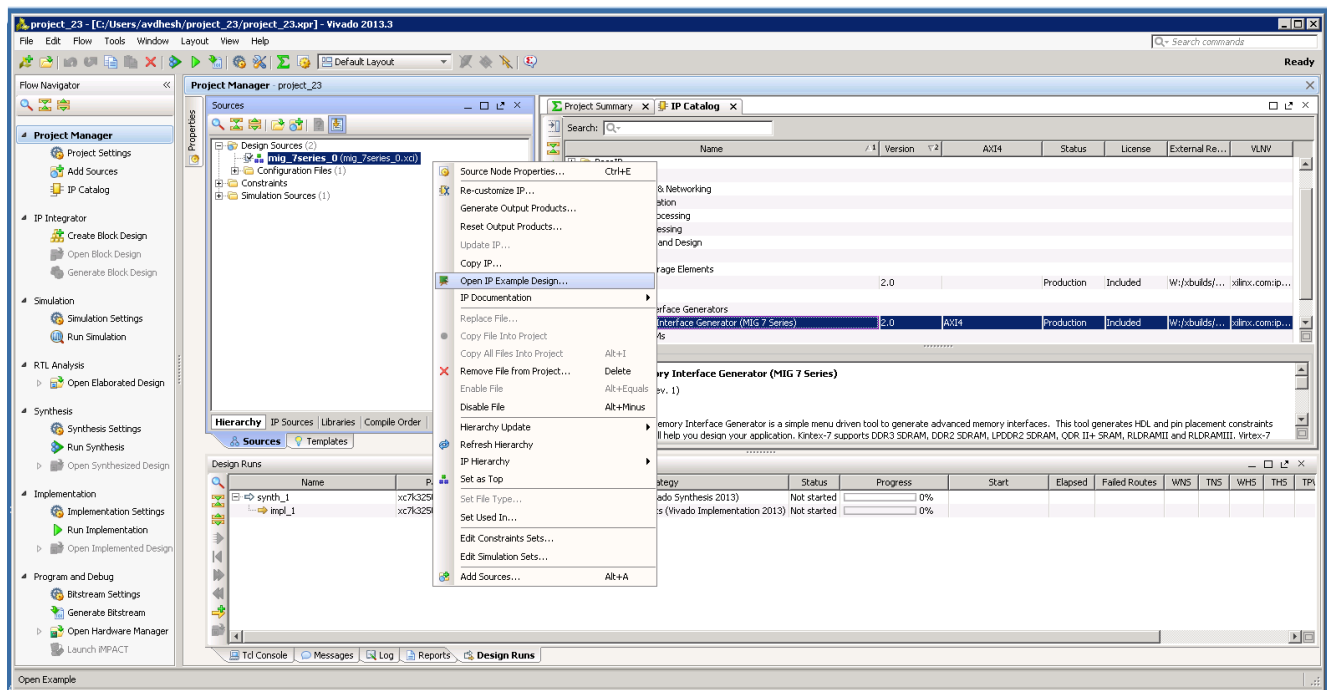

Figure 4-34: Open IP Example Design
- The Vivado Design Suite supports **Open IP Example Design** flow. To create the example design using this flow right-click the IP in the **Source Window**, as shown in Figure 4-34 and select.